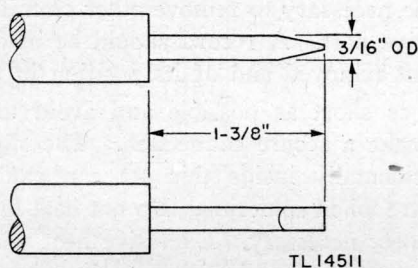

Figure 71. Modified soldering iron tip.
*b. CONSTRUCTION OF SPECIAL MAINTENANCE TOOLS.* The mechanical compactness of Radio Receiver and Transmitter BC-1000-A makes it difficult to solder and unsolder certain parts. To perform soldering operations with ease at close quarters, reshape a standard size soldering iron tip to chisel point as shown in figure 71.